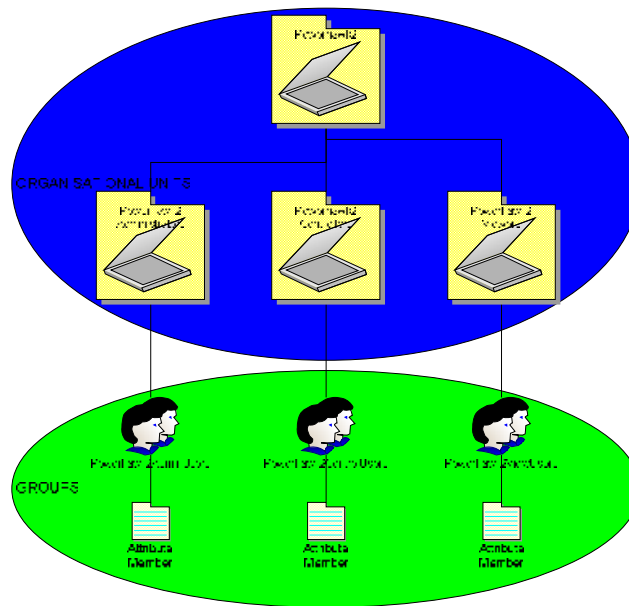

Figure 5-1. LDAP Structure Chart.
See **Figure 5-1** (Page 47) for hierarchy details.
- 3) Enter the complete DN of the top level OU as seen in **Figure 5-1** above.